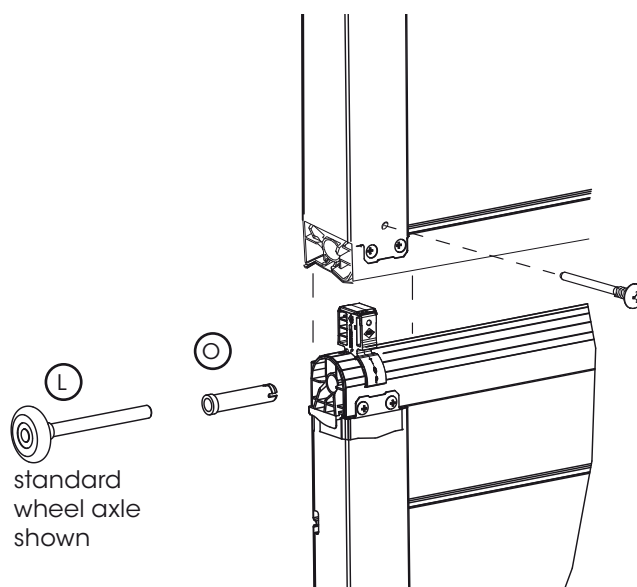

Fig: 5.3.2
The screw for each Insul-Shield link is inserted to secure links after the panels are all placed in the tracks. See Fig 5.3.2 for location of screw in each door stile.
- Insert the assembled Insul-Shield link into the recesses at the top of the panel and fix into place using the white pins (C) in Fig 5.3.2.
- Insert 4 x the appropriate wheel axle (L) (standard, extended or smooth track) into the top and bottom of the panel.